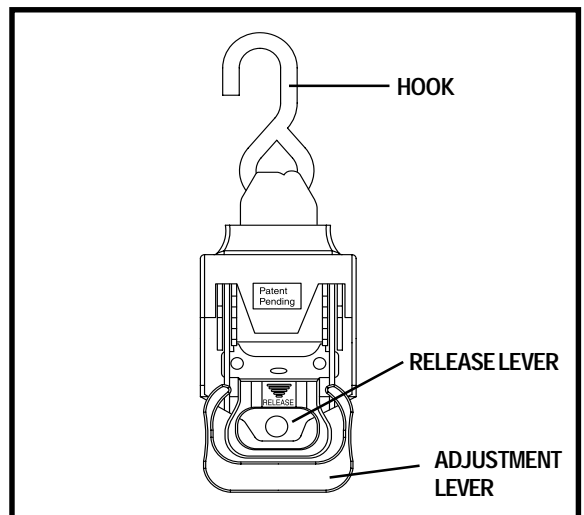

Figure 11. Retractable Tie-down Strap
5. Secure the mobility device to the platform using either the retractable tie-down straps (see figure 11) for power chairs or the automatic lock-down arm for scooters.
- Squeeze together the release and adjustment levers on the retractable tie-down strap and simultaneously bring both levers forward to a 90-degree position until they “click” into place. See figures 11 and 12. This will unlock the tie-down strap.
- Once each strap is secured in the proper position, squeeze together the release and adjustment levers and simultaneously bring both levers rearward to their original positions. See figures 11 and 14. This will lock the tie-down strap.